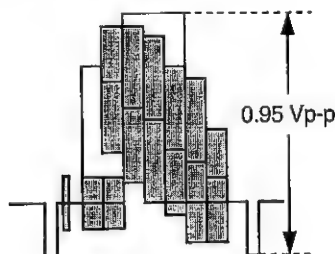

Figure 5-3.
3. Make sure that the E-E signal amplitude is 1.0Vp-p as shown in Figure 5-3.